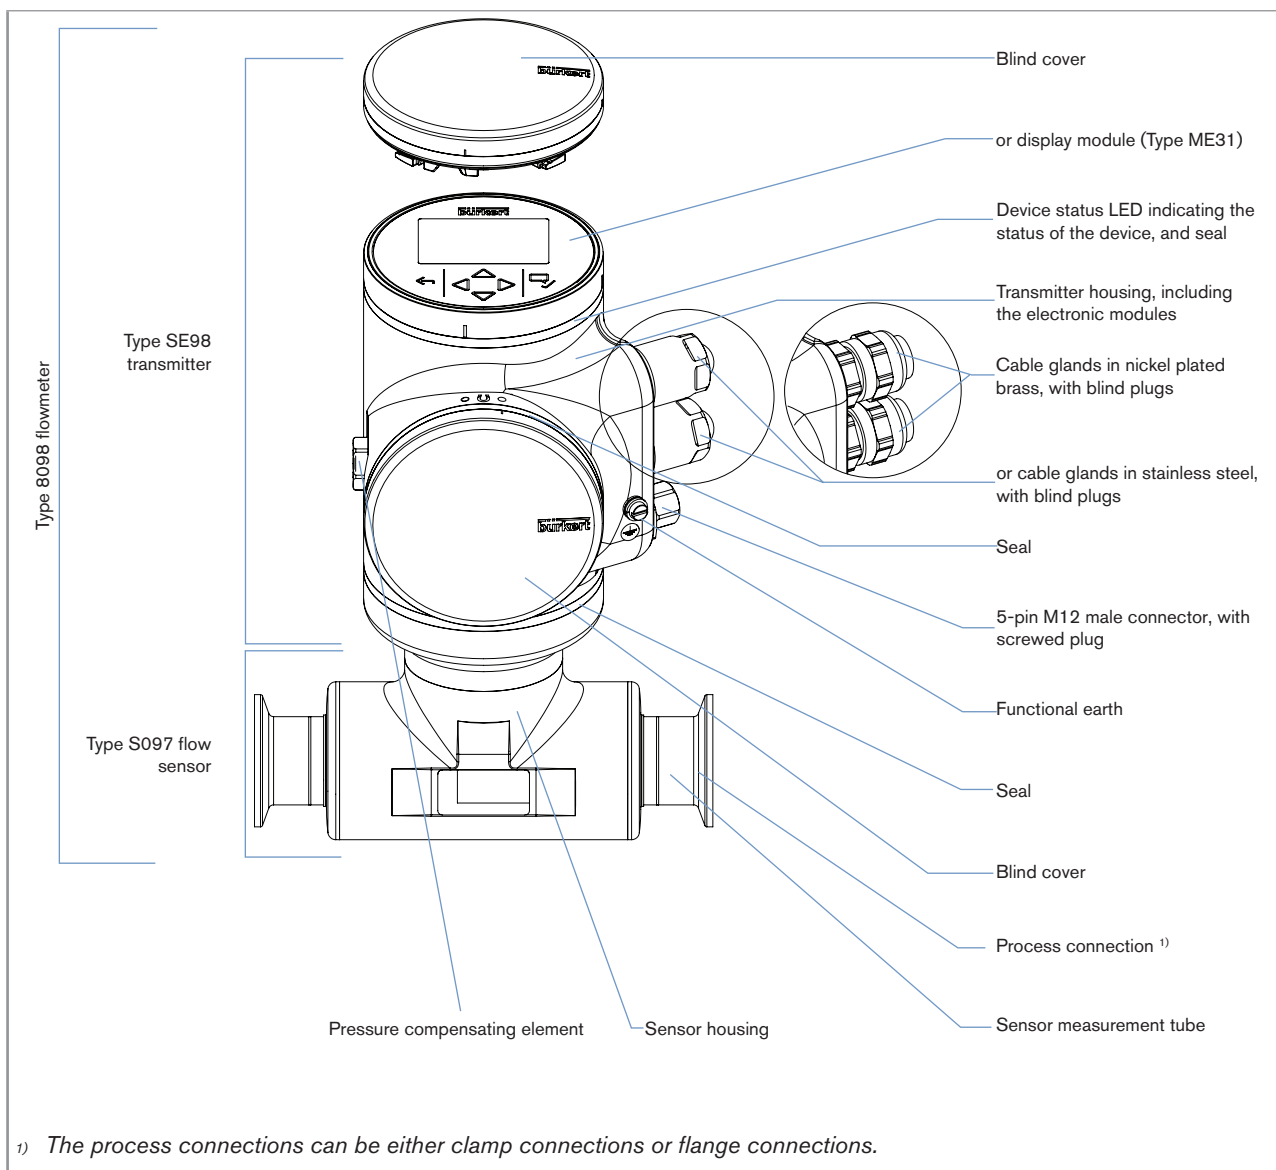

Fig. 1 : Description of the device with 2 M20x1,5 cable glands and 1 5-pin M12 male connector
- Fig. 1 describes a device with 2 M20x1,5 cable glands in stainless steel (or in nickel plated brass) and 1 5-pin M12 male connector.